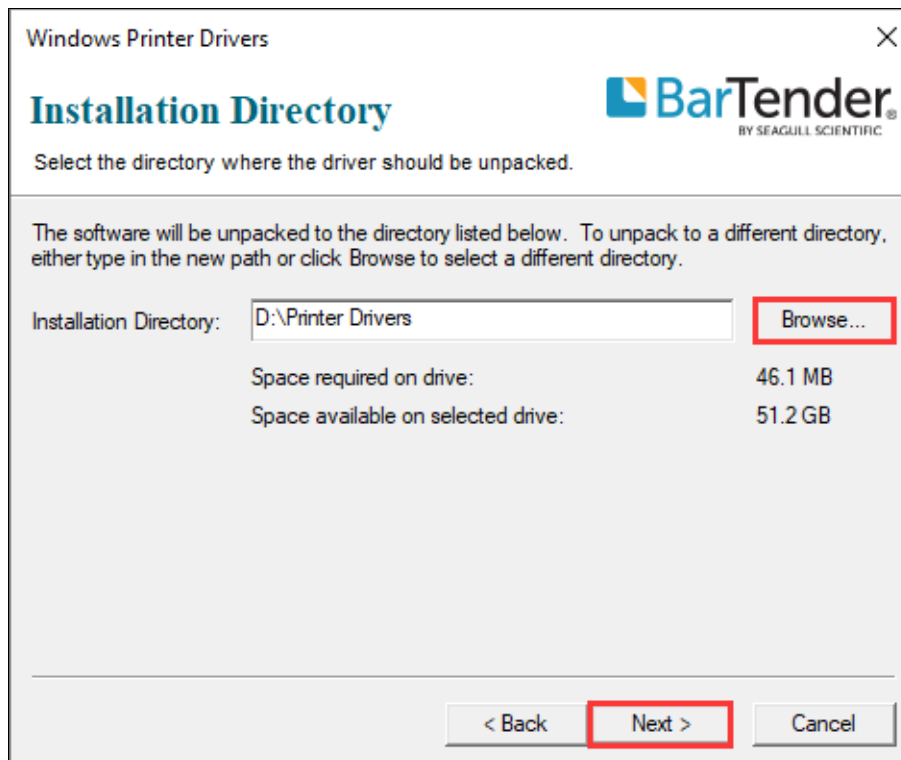

Figure 2-33 Installation Directory Screen
4. The “Installation Directory” screen displays. Click “Browse...” and select where the files will be installed, then click “Next”, as shown in Figure 2-33.